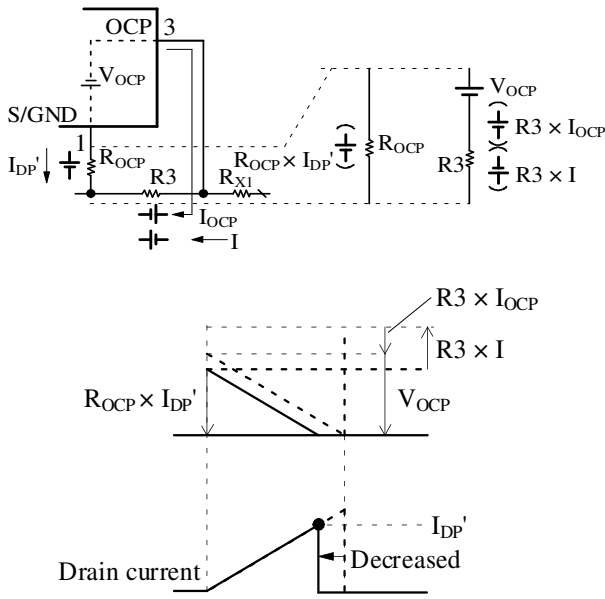

Figure 8-30. With OCP Input Compensation Function
The peak drain current during OCP operation with OCP input compensation circuit, $I_{DP(OCP)'}$, is expressed by Equation (11) obtained from Figure 8-30: